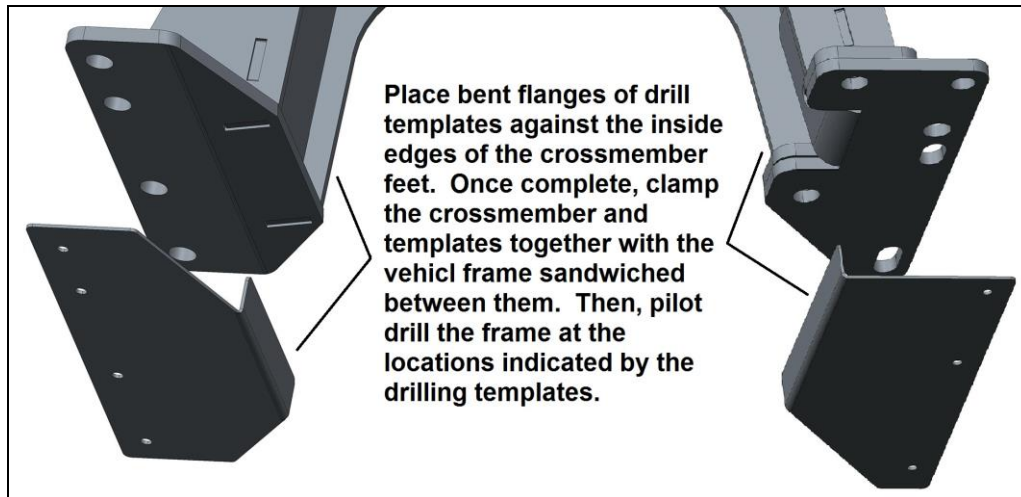

Figure 3
9. If a matching pattern can not be found, new holes must be drilled. Start this operation by measuring the distance from the inside verticle wall of each frame rail to the center of the transmission output shaft and nudge the transmission in the direction needed to offset the measurement 1/16" off-center towards the passenger's side of the vehicle. This amount of offset translates to the driver's side measurement being 1/8" longer than the measurement taken from the passenger's side frame rail. With the crossmember resting in this offset position and square to the frame, clamp the crossmember and included drilling templates to the frame as shown below in **Figure 3**. Drill four 3/16" pilot holes in the locations indicated by the drilling templates, and then remove the templates and enlarge the holes to 7/16" diameter or slightly larger. Install the bolts with the heads facing the ground and tighten the nuts to approximately 70 ft./lbs.